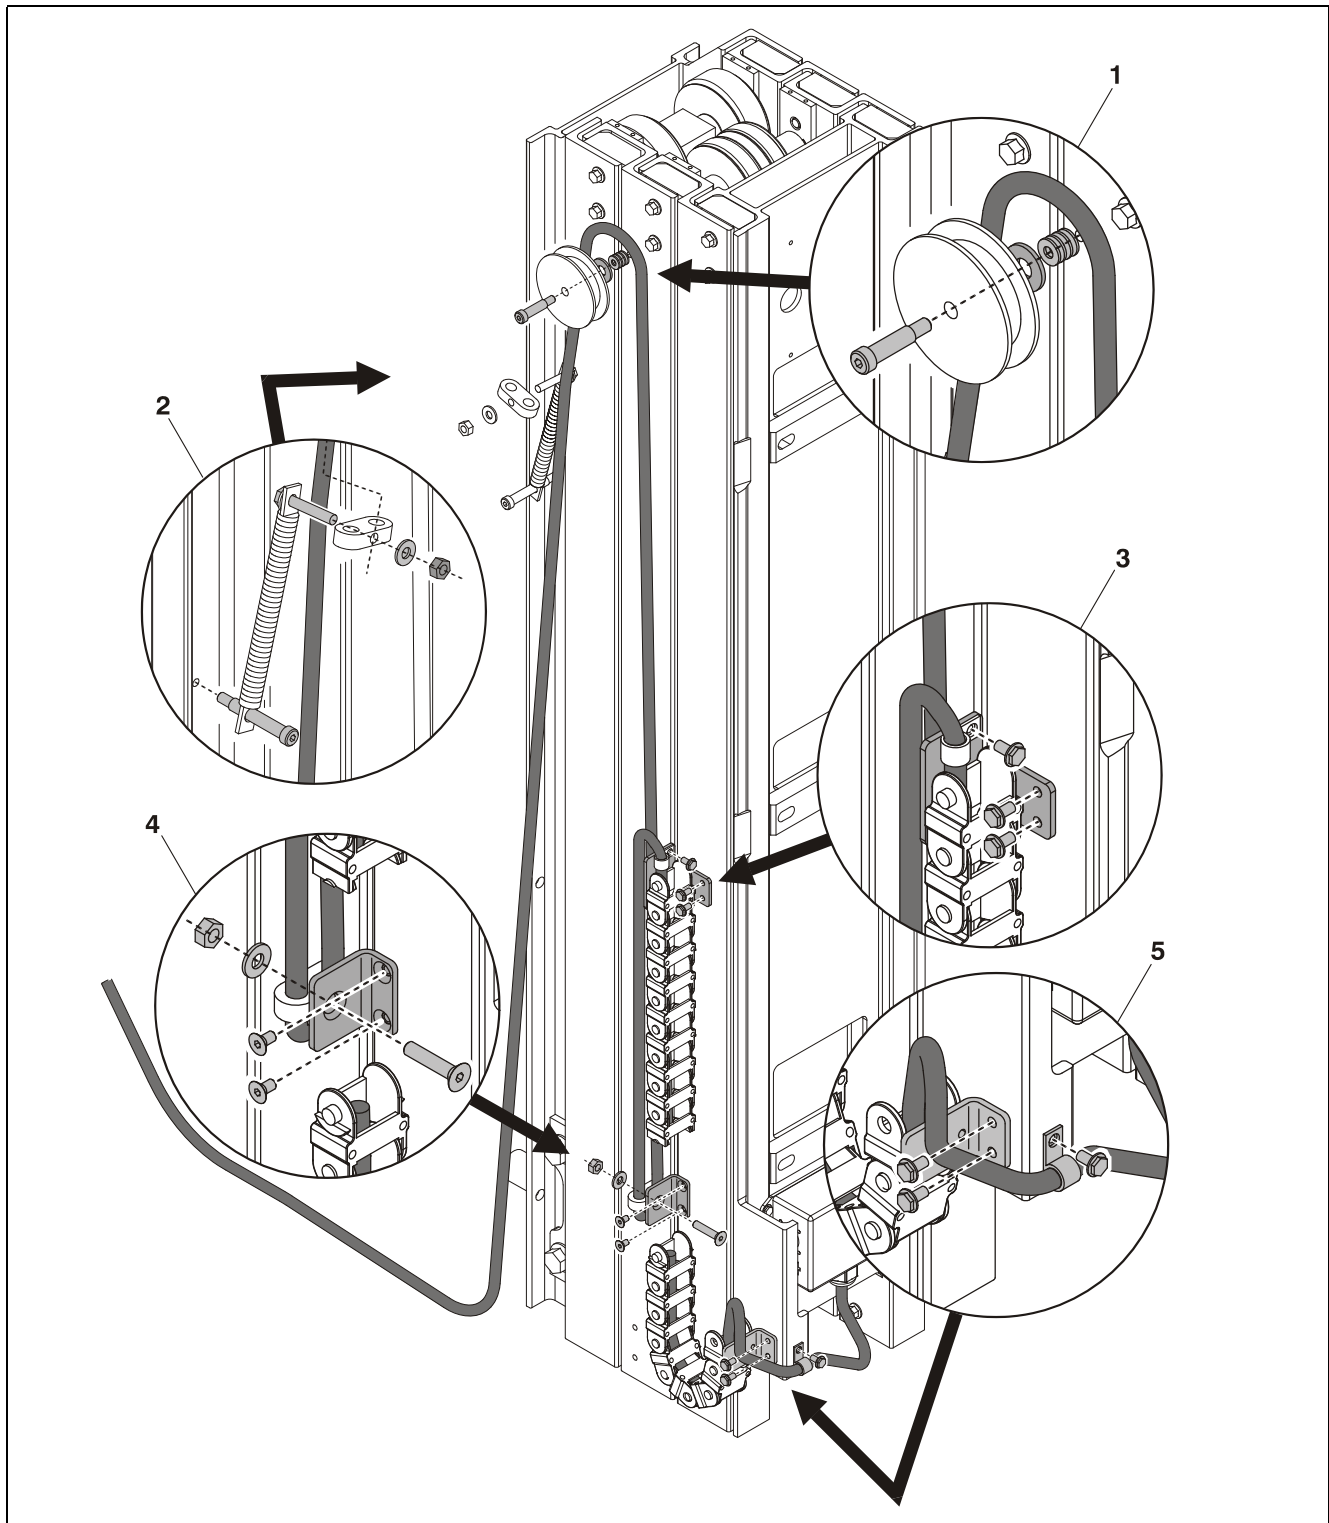

Figure 5-7. Platform Junction Box to Ground Control Station Wiring Harness.
13. Install the platform junction box to ground control station wiring harness (See Figure 5-7.), including the platform junction box, powertrack assembly, harness cable sheave assembly, and harness spring tensioner to the side of the mast assembly. Reference Section 4, Platform Junction Box Install/Remove.